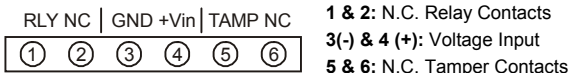

Figure 2: 6-Pin Wiring Connector
4. Wire the terminal block as shown in Figure 2 and plug it back into the 6-pin connector with the screws of the terminal block facing downwards.